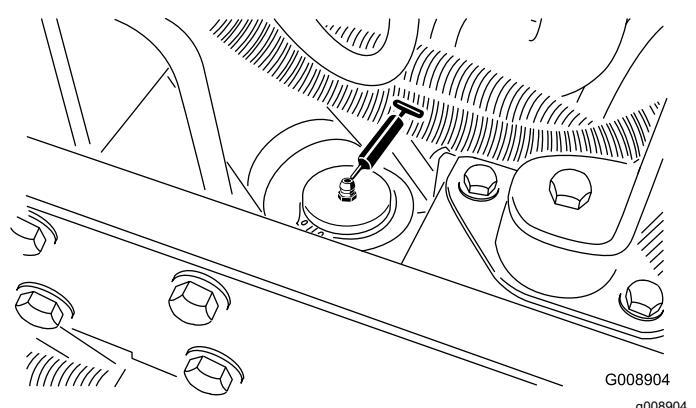

Figure 41
- Steering cylinder (Figure 41).